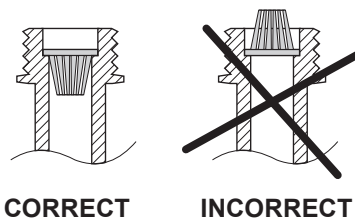

fig. 9
5. Insert the filter into the heater inlet with a basket bottom down (fig. 9)